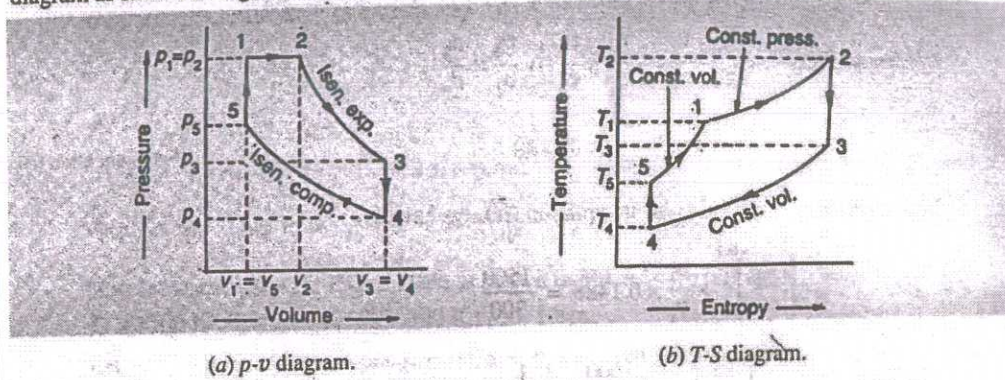

Fig. 6.15. Dual combustion cycle.
The ideal dual combustion cycle consists of two reversible adiabatic or isentropic, two constant volume and a constant pressure processes. These processes are represented on $p-v$ and $T-S$ diagram as shown in Fig. 6.15 (a) and (b).
1. **First stage (Constant pressure heating).** The air is heated at constant pressure from initial temperature T_1 to a temperature T_2 represented by the curve 1-2 in Fig. 6.15 (a) and (b).
2. **Second stage (Reversible adiabatic or isentropic expansion).** The air is expanded reversibly and adiabatically from temperature T_2 to a temperature T_3 as shown by the curve 2-3 in Fig. 6.15 (a) and (b). In this process, no heat is absorbed or rejected by the air.
3. **Third stage (Constant volume cooling).** The air is now cooled at constant volume from temperature T_3 to temperature T_4 as shown by the curve 3-4 in Fig. 6.15 (a) and (b).
4. **Fourth stage (Reversible adiabatic or isentropic compression).** The air is compressed reversibly and adiabatically from temperature T_4 to a temperature T_5 as shown by the curve 4-5 in Fig. 6.15 (a) and (b). In this process, no heat is absorbed or rejected by the air.
5. **Fifth stage (Constant volume heating).** The air is finally heated at constant volume from temperature T_5 to a temperature T_1 as shown by the curve 5-1 in Fig. 6.15 (a) and (b).